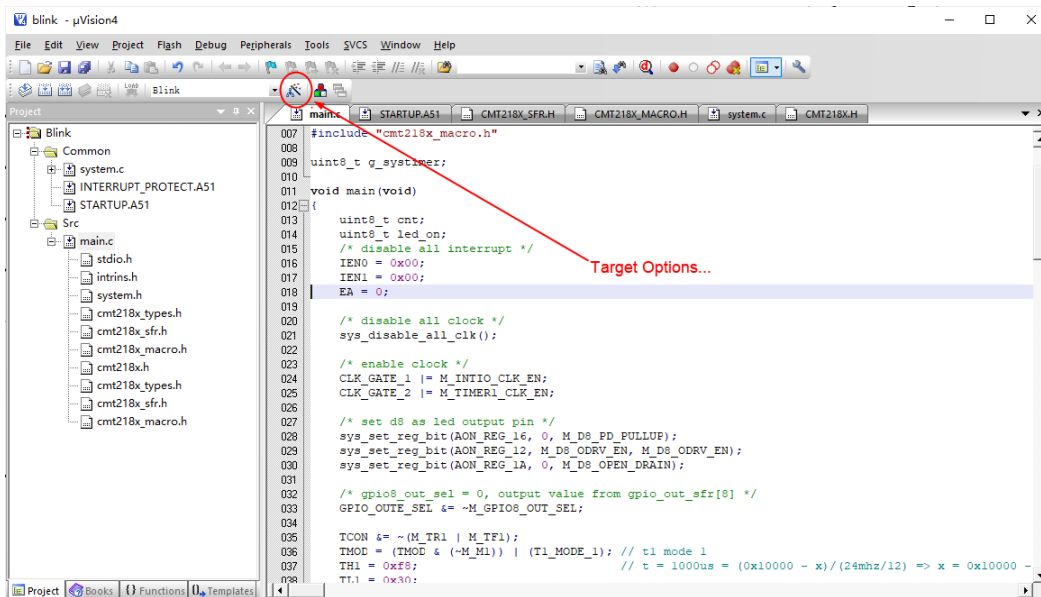
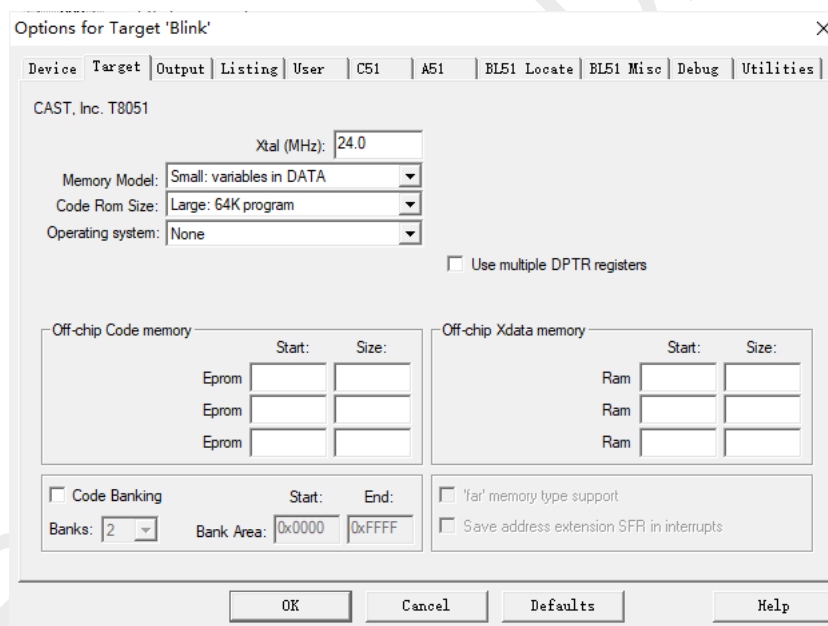

Figure 2-7. Select Target Options...
Figure 2-8. Options for Target /Target 1 Interface
- Step 3: Return to the Keil project engineering interface, select "Target Options..." (i.e. click the magic wand), and the "Options for Target 'Target 1'" interface will pop up, as shown in Figure 2-7 and Figure 2-8.